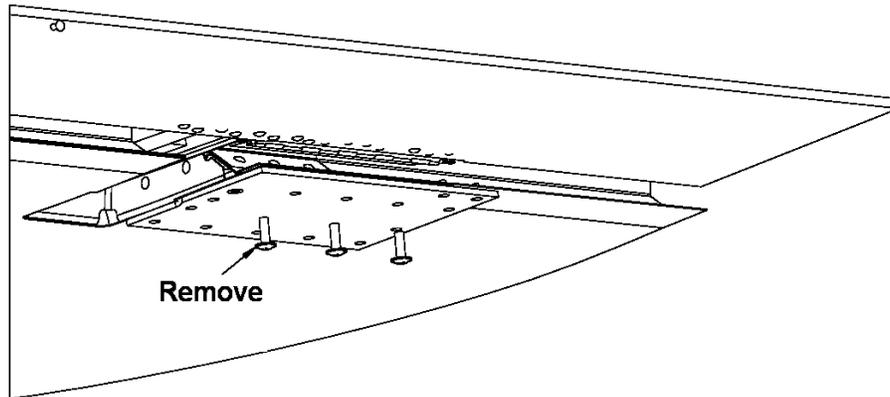

Figure 27-4 Screws Removal on Aileron Hinge
3. Remove split pin (1), nut (2), washer (3) and bolt (4) that attach pushrod to inboard end of aileron (nearest to flap) to disconnect pushrod. See Figure 27-4. Separate pushrod from aileron.